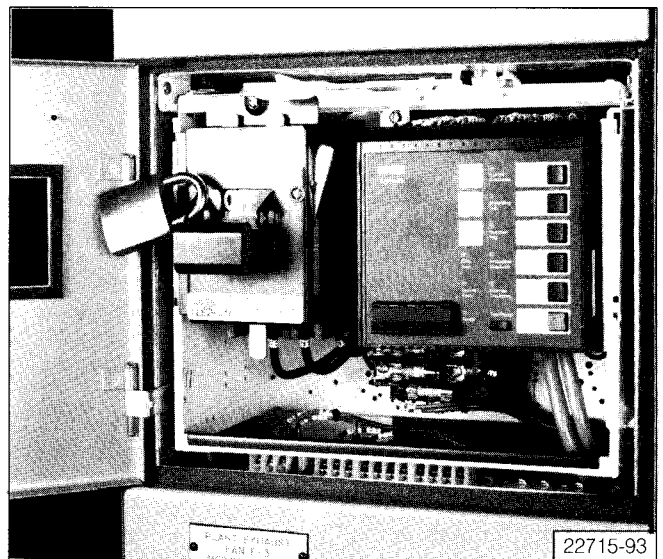

Figure 26: Padlocking the Handle in the "OFF" Position
2. **Padlocking:** The handle may be locked in the "OFF" position (**Figure 26**) by installing one to four padlocks in the locations shown. With one or more padlocks installed, the handle is prevented from moving to the "ON" position by interference between the padlock and the handle.